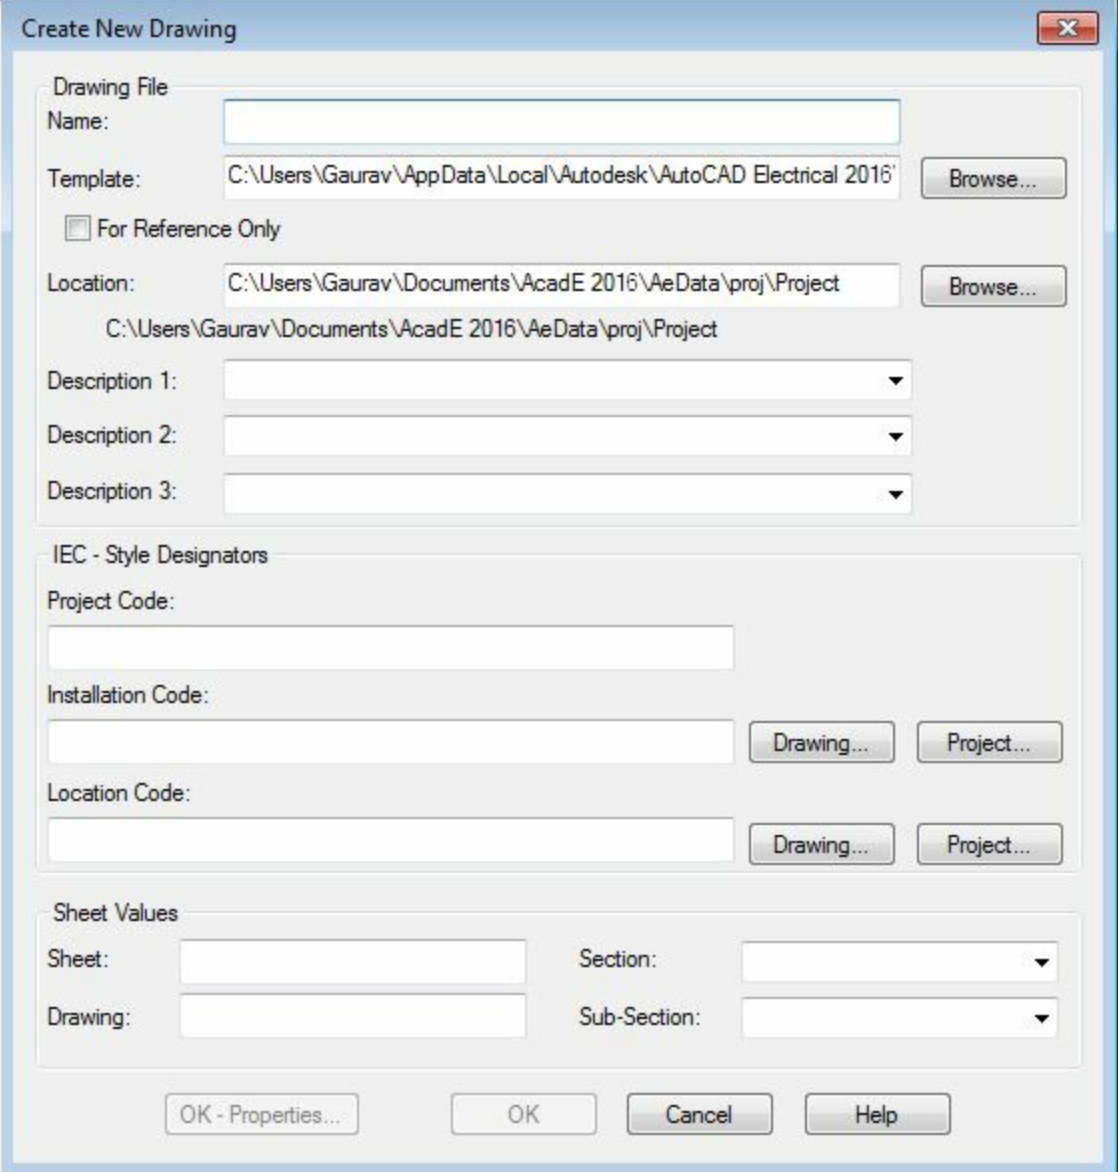

Figure-5. Create New Drawing dialog box
- Click on the **New Drawing** button from the Project Manager. The **Create New Drawing** dialog box will be displayed; refer to Figure-5.